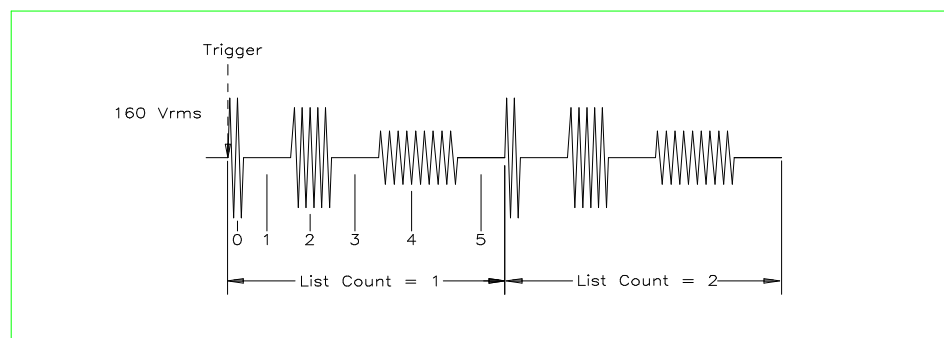

Figure 4-43: List Transients
13. Move the cursor to the END DELAY field and enter 0.067 for a interval delay of 67 ms. Notice that we effectively combined steps 0 and 1 from Figure 4-43 into a single list event.
21. Move the cursor to the START field and press the ENTER key. The transient program you just created will execute two times. If you have an oscilloscope connected to the output, you may be able to see the output voltage change per Figure 4-43.